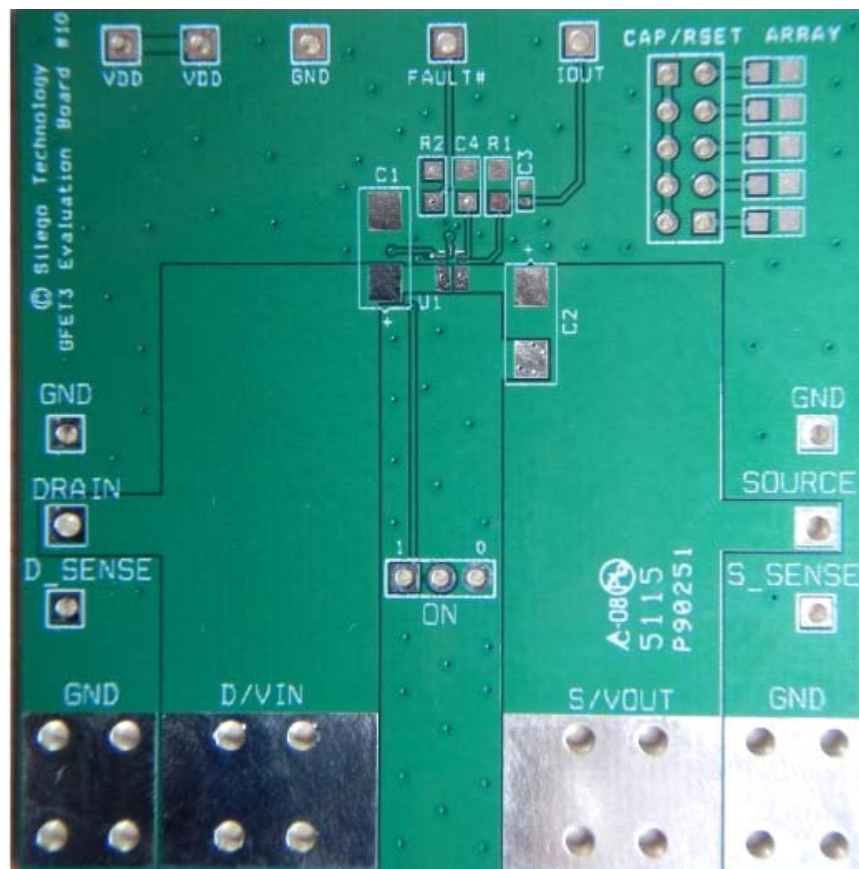

Figure 13. SLG5NT1757V Evaluation Board
2. Since the VIN and VOUT pins dissipate most of the heat generated during high-load current operation, it is highly recommended to make power traces as short, direct, and wide as possible. A good practice is to make power traces with an absolute minimum widths of 15 mils (0.381 mm) per Ampere. A representative layout, shown in Figure 13, illustrates proper techniques for heat to transfer as efficiently as possible out of the device;
A GFET3 Evaluation Board for SLG5NT1757V is designed according to the statements above and is illustrated on Figure 13. Please note that evaluation board has D_Sense and S_Sense pads. They cannot carry high currents and dedicated only for $R_{DS(ON)}$ evaluation.